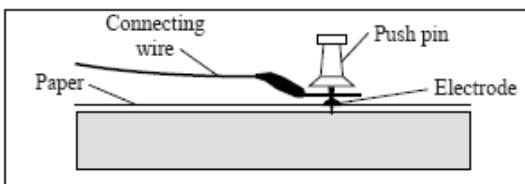

Figure 5
- a. Place the terminal of a connecting wire over the electrode, then stick a metal push pin through its terminal and the electrode into the corkboard. Make certain that the pin holds the terminal firmly to the electrode. (see Figure 5).